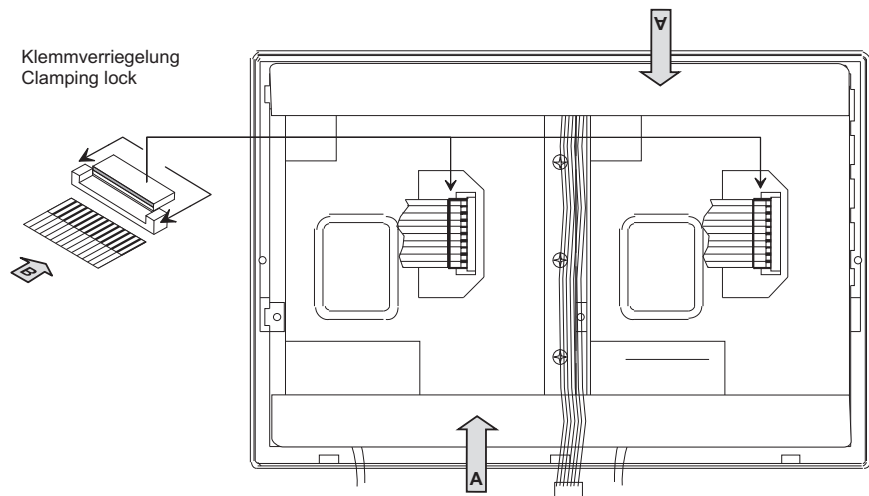

Fig. 8-30: Mounting the cover plates and reconnecting the displays
14. Fix the cover plates with suitable adhesive tape back to their place (fig. 8-30, A).
15. Connect flat cables to display unit (fig. 8-30, B). Avoid damage of the flat cables because of canting.